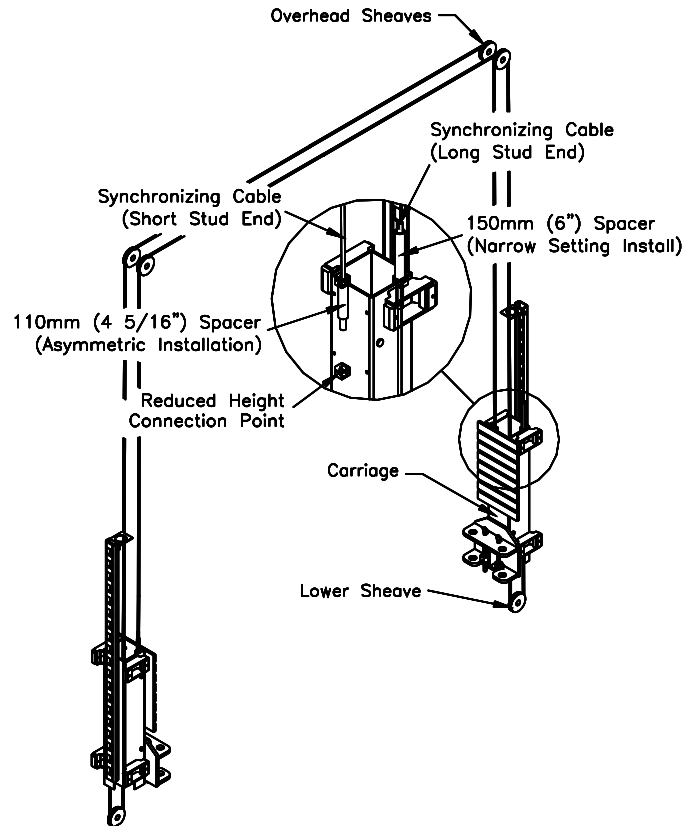

Fig 11a – Synchronizing Cables
- 19) Attach one end of synchronizing cable to carriage. See **Fig 11a** for proper attachment.
- 21) Route cable up and over sheave in overhead. Follow across to other sheave on opposite column. Route down through carriage to sheave in bottom of column. Route under sheave and up to cable attachment. Use **Fig 11a** for proper attachment.